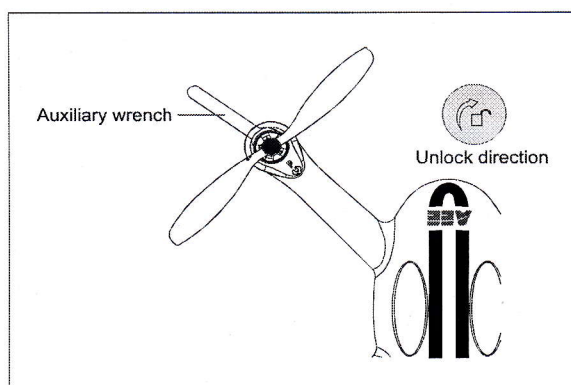

Figure13
**⚠** As shown as in the Figure 13, prevent motor rotation by using the auxiliary wrench or your hand, then remove propeller by turning towards the unlock direction.